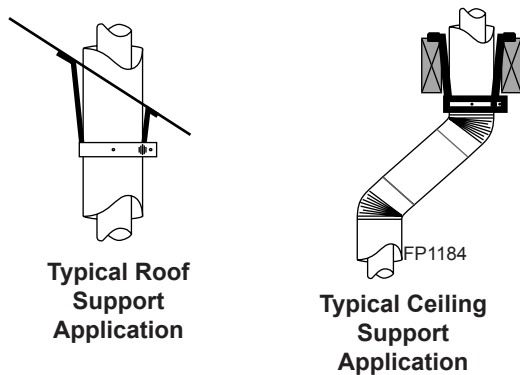

**Figure 36 -
6. Place firestop(s) or Attic Insulation Shield into position and secure. *Figure 36*